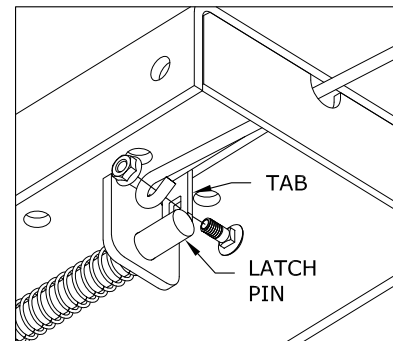

Figure E2: Handle Installation
2. Secure the handle to the pin with the $\frac{5}{16}$ " X $\frac{3}{4}$ " carriage bolt and $\frac{5}{16}$ " locking flange, see figure E2. Note: The included $\frac{5}{16}$ " cap screw can replace the carriage bolt if wrench access on the "cab side" of the handle is limited. Tighten the nut until it is secure. Do not over-tighten and deform the handle eyelet.